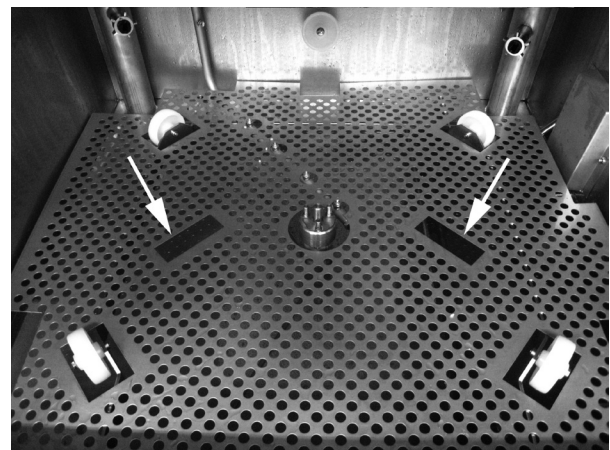

Figure 19: Tank Grid
4. Grip the handles of the tank grid and lift it out. See Figure 19 Tank Grid.